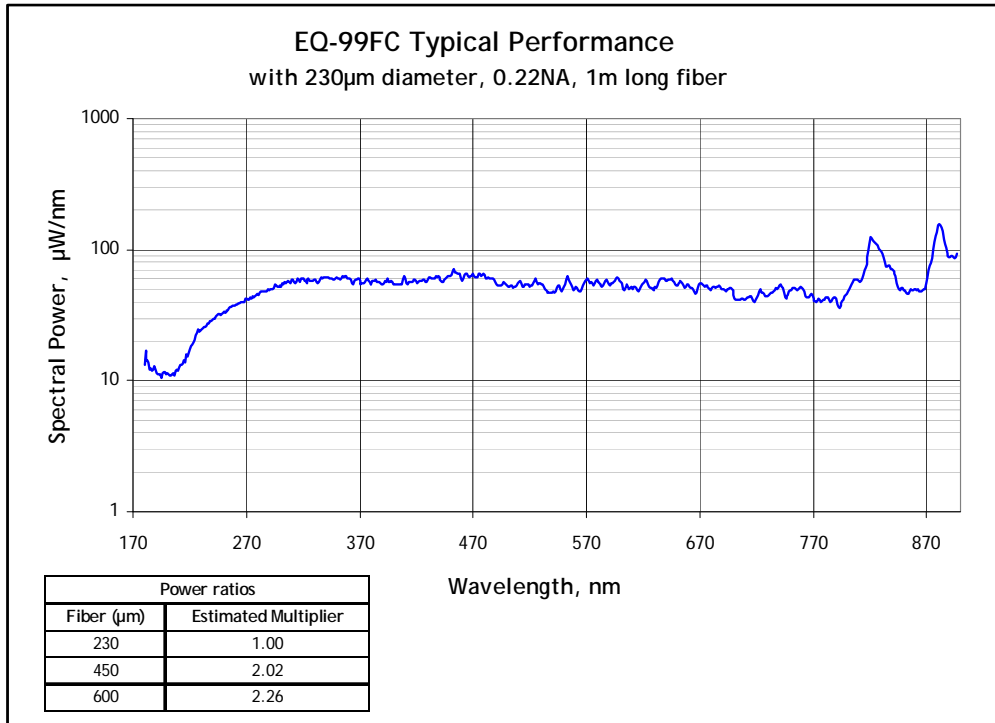

Figure 2: Typical output performance
- Typical output performance: see Figure 2.